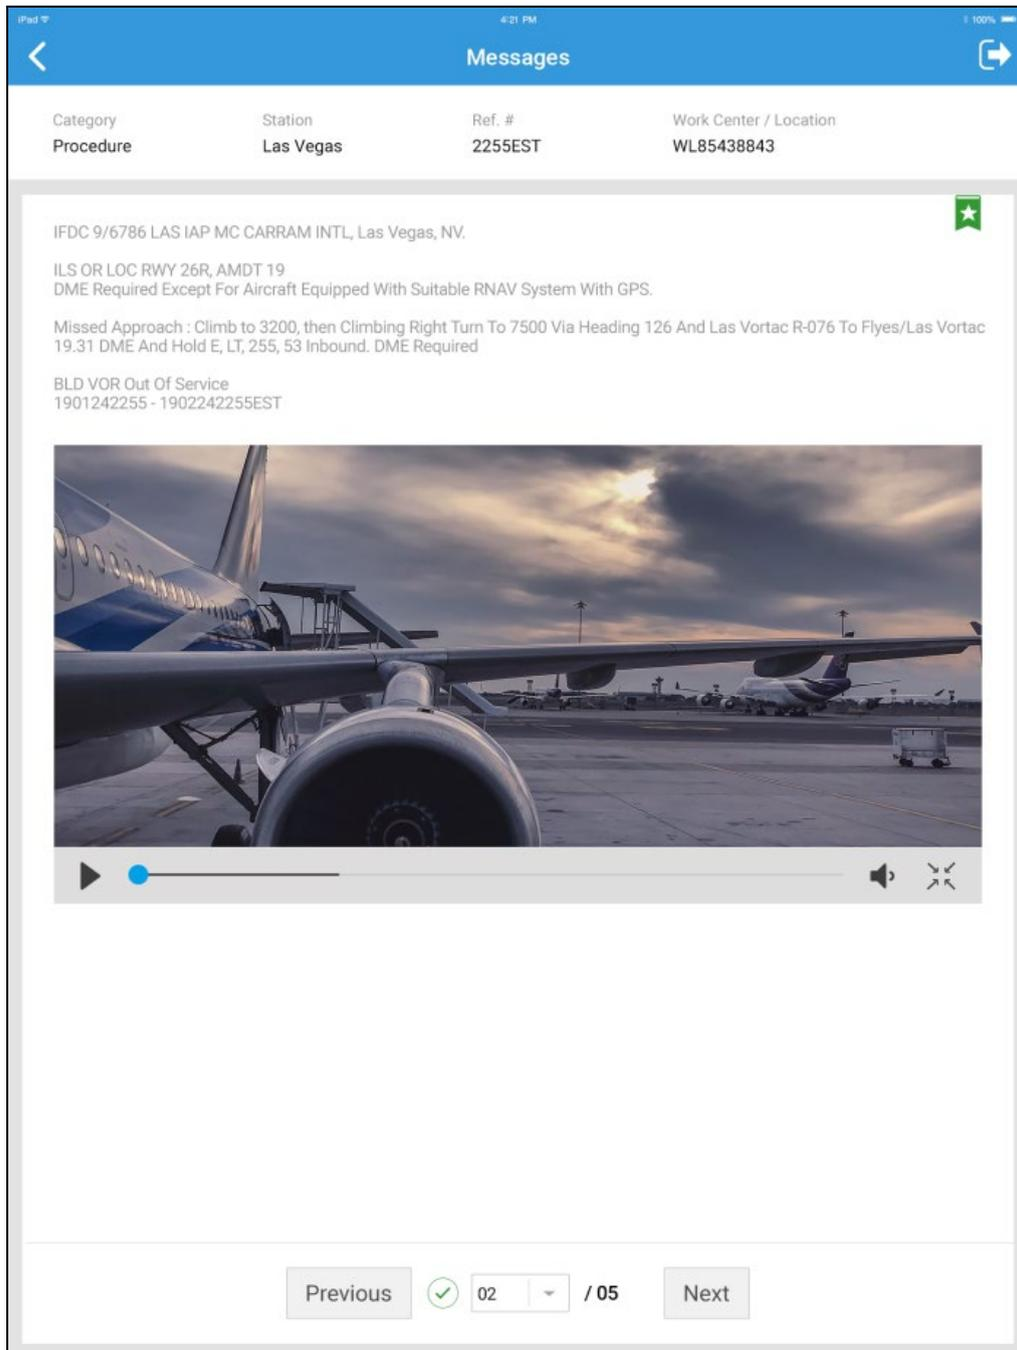

Figure 4.4. The Messages screen
1. Tap on **Notification Messages** under **Messages** in **Dashboard**. The **Messages** page appears. *See Figure 4.4.*